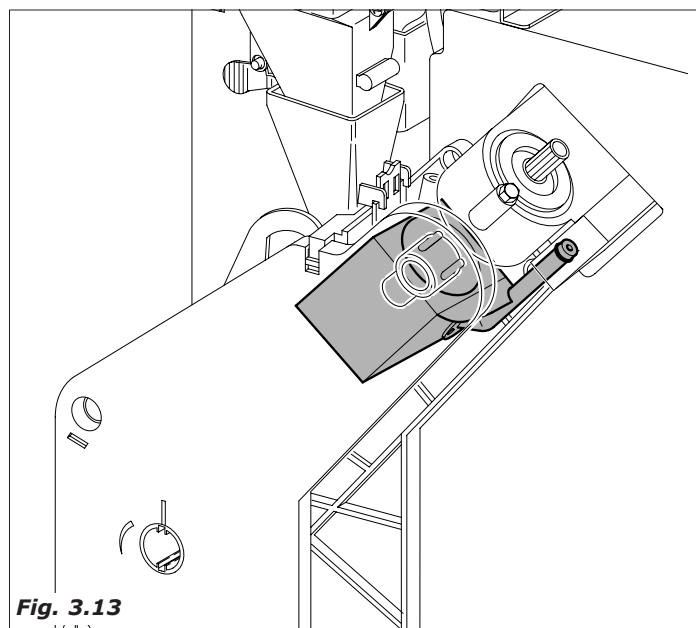

Fig. 3.13
- the coffee group geared motor is activated again so as to bring again into standby position ; during this movement the used coffee grounds are expelled (Fig.3.13)